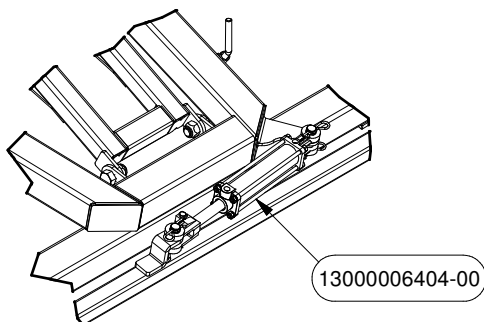

FIGURE 3
7. Attach Cylinder 6404 to the Mover Axle and Tie Rod as shown in Figure 3. The cylinder can be found in the Hydraulic Kit.